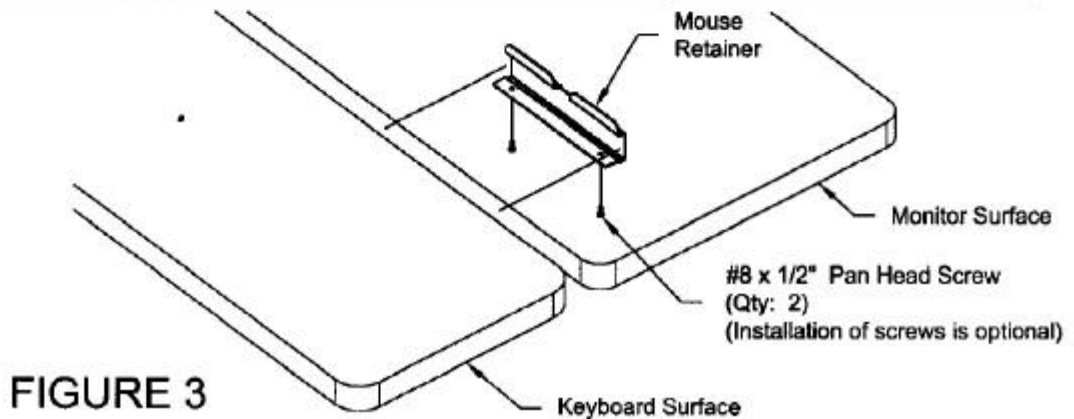

FIGURE 3
6. Mouse retainer is optional and is normally installed on the back of the keyboard surface. The mouse retainer is a press fit or can be attached using (2) #8 x 1/2" pan head screws. (See Figure 3).